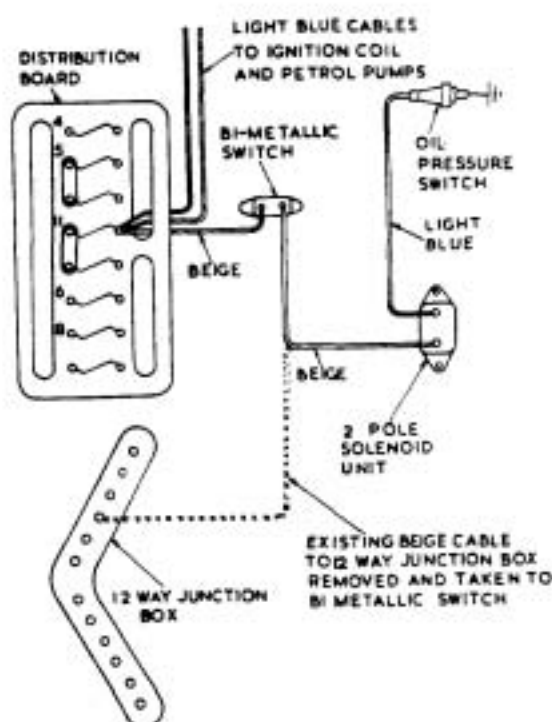

FIG. 5.
- (viii) Remove the existing beige feed wire to the solenoid from the triangular shaped 12 way junction box on the dash. The wire leaves the junction box and passes down the dash in the main loom under the conduit, leaving the main loom at the valance to lead to the solenoid switch. Pull the wire down to the top of the conduit and arrange it to pass out through the slot in the conduit elbow to the left hand connection on the bi-metal switch. Cut the cable to length. Run a cable from the distribution board out through the slot in the elbow to the right hand terminal (Fig.5.) Cover exposed cable with P.V.C. sleeve. Refix the conduit elbow to the dash and connect the cables to the switch with 2.B.A. cable eyes and rubber elbow sleeves. (It will be noted